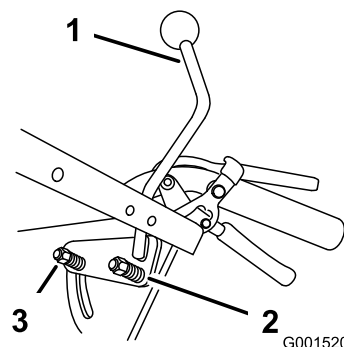

Figure 35
**Note:** If inconsistent neutral occurs, check to be sure both springs are properly tightened on the speed control lever under the console, especially the rear pivot spring. Repeat above adjustments if necessary (Figure 35).